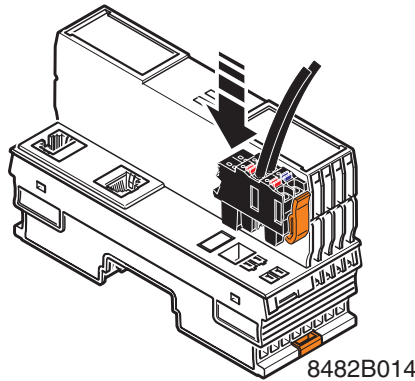

Figure 5-5 Connecting the supply plug
- Connect the power supplies to the supply plug as shown in Figure 5-5. Please observe the information in Section 3.11.